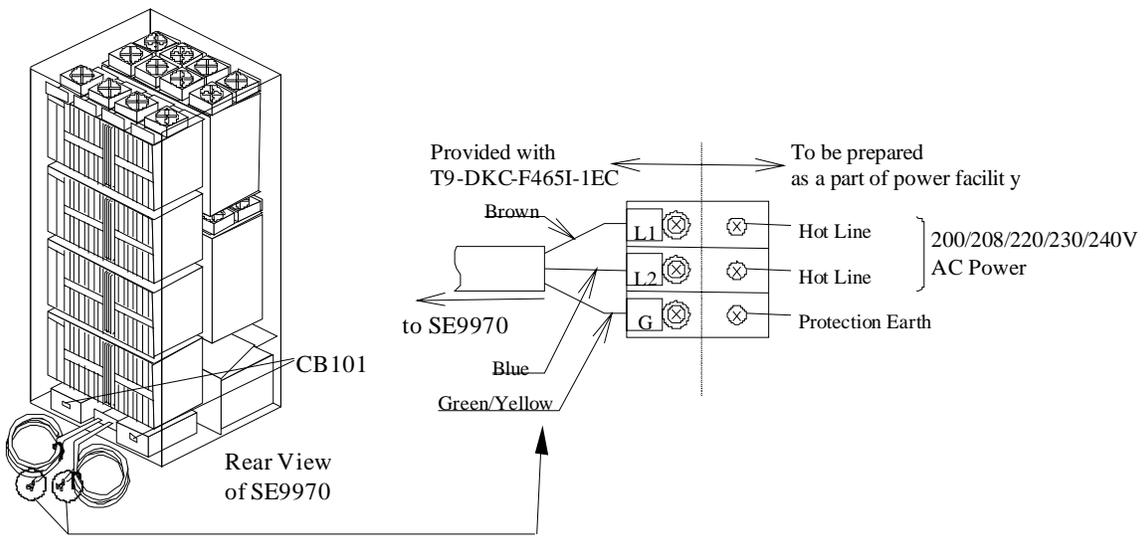

Figure 35 Power Plugs for a Single-Phase Sun StorEdge 9970 System (Europe)
- Figure 35 illustrates the power plugs for a three-phase Sun StorEdge 9970 system (Europe).